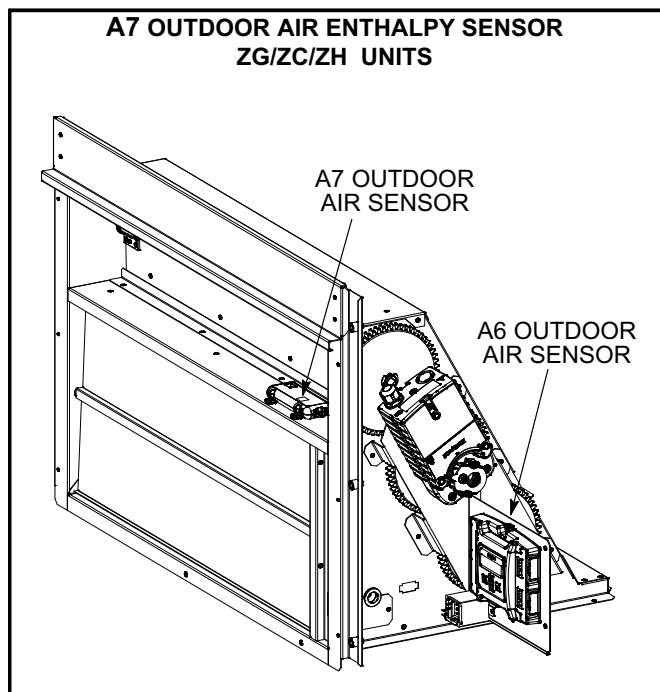

FIGURE 2
- 4- Replace existing RT26 OA sensor with new A7 sensor from this kit. See figure 2 for sensor location.
- 4- Replace existing RT26 OA sensor with new A7 kit sensor set to "OA". See figure 2 for sensor location.